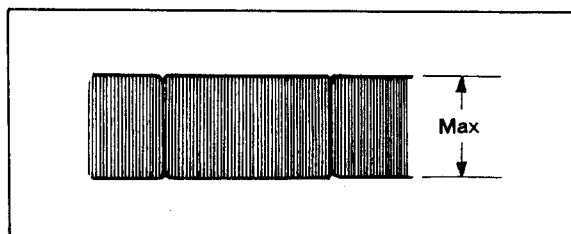

Fig. 6-16 FM waveform
3. Set the tracking control knob to AUTO position and adjust R22 (PRE-SET) so that the FM waveform on TP-7 is maximum as shown in Fig. 6-16.